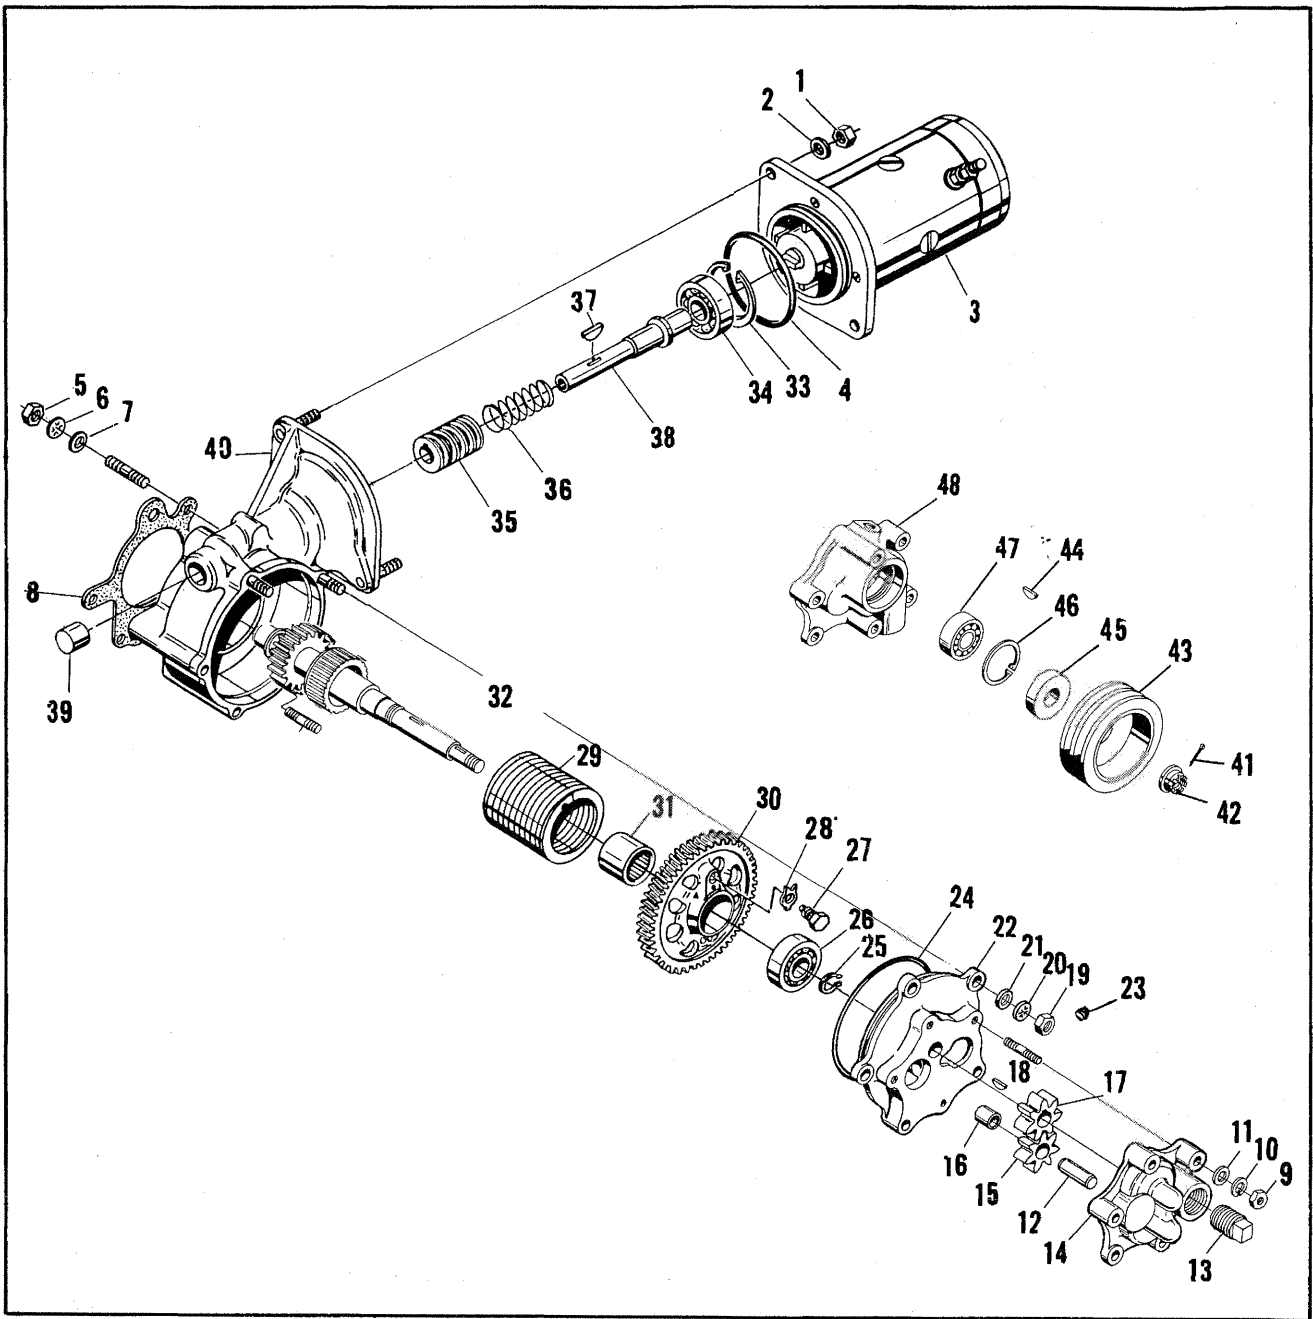

FIGURE 4-19. STARTER AND STARTER DRIVE ADAPTER, PERMOLD ENGINE.
**4-27. STARTER AND STARTER DRIVE ADAPTER, TSIO-520-B,D,E,J & K (See Figure 4-19).**
- a. Remove attaching parts (1,2) and pull starter (3) from adapter studs. Remove "O" ring (4).
- b. Remove retaining ring (33) using Truarc No. 5 or No. 25 pliers. Insert a wide blade tool into the worm gear shaft slot and rotate the shaft counterclockwise to break the ball bearing loose from the housing. If possible, remove entire shaft assembly from housing, otherwise remove after starter shaft has been removed.
- d. Remove five sets of attaching parts (9,10,11) and tap scavenge pump body (14) with a plastic hammer to remove. Remove gear and bushing assembly (15,16) and gear (17). If a Woodruff key (18) is used, the assembly must be converted to a splined drive at this time. (See Service Bulletin M72-8.)
- e. Remove two sets of attaching parts (19,20,21) and use an inertia puller or other suitable tool to detach cover assembly (22) and "O" ring (24) from starter adapter.